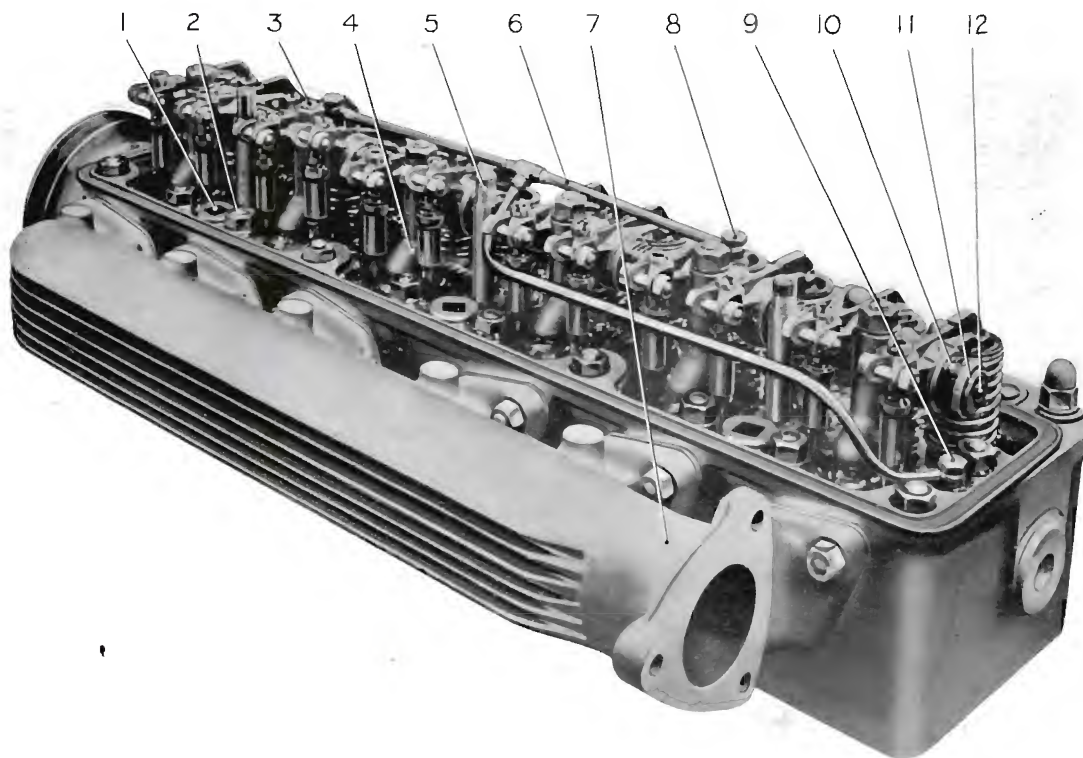

Fig. 13.
The rocker shafts (12), Fig. 13, are each carried in three brackets (4) secured on studs which also locate the shafts endwise; the shafts are hollow, the ends being sealed with welch washers. The rockers are bushed and are located on the shafts by springs (10). Pressure lubrication is provided from the main oil pump. A pipe from the oil pump passes into the block. The oil passes through an oilway in the block and head through a restrictor valve (9) and by way of the pipes (6) to the hollow rocker shafts. The shafts are thus filled with oil under pressure and holes are provided so that oil is supplied to each rocker bush.
Replace the rocker gear and lubrication pipes (see Fig. 13) taking care that the fibre washers are fitted at the unions. Set the valve clearances at .020 in. for both inlet and exhaust valves. Connect up the high tension cables, couple up the water connection, replace the manifolds, fitting new gaskets if necessary. Fit the carburettor and couple up the controls. Fill up the radiator,